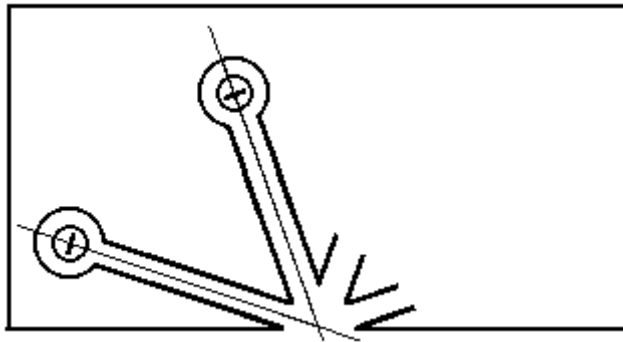

Fig. 8.3.2. Perpendicular filament alignment.
3. Fit the new bulb, aligning it so that the filament is perpendicular to the angle at which the beam will be directed (fig.8.3.2).